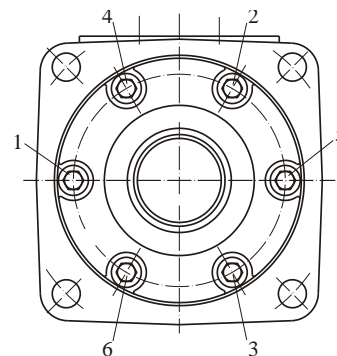

Fig.11
6. Lubricate friction lips of shaft seal ring. Place over all shafts except tapered shafts a safety cap for protection lips of the seal with extension. Fit the front cover. Install in the front cap 6 screws and alternately torque them to 2,5-3 daNm using a S13 torque wrench (see Fig.11).